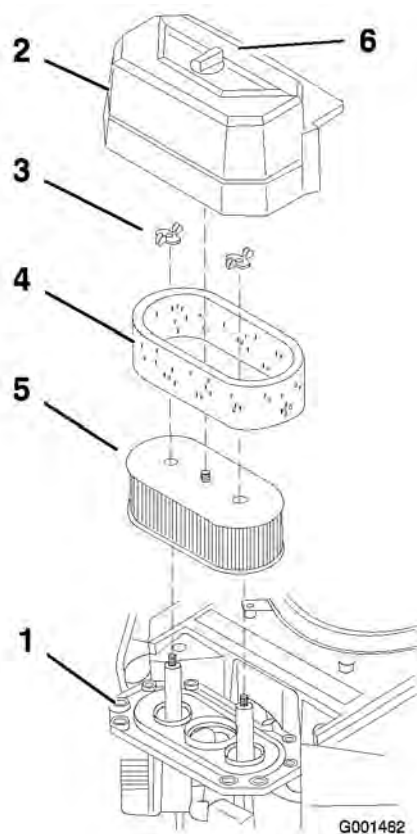

Figure 26
3. Clean around the air cleaner to prevent dirt from getting into the engine and causing damage (Figure 26).
4. Unscrew the cover knob and remove the air cleaner cover (Figure 26).
5. Remove the 2 wing nuts and remove the air cleaner assembly (Figure 26).
6. Carefully pull the foam element off the paper element (Figure 26).
1. Do not clean the paper filter. Replace it after 200 operating hours (Figure 26).
1. Carefully slide the foam element onto the paper air cleaner element (Figure 26).
2. Place the air cleaner assembly onto the air cleaner base and secure it with the 2 wing nuts (Figure 26).
3. Place the air cleaner cover into position and tighten the cover knob (Figure 26).